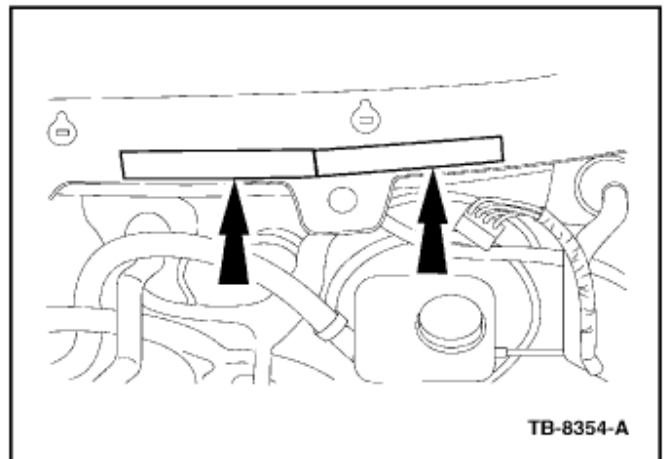

Figure 8
11. Place two (2) of the cut pieces of the PVC soft foam adhesive stripes on the metal body surface over the transaxle area. The two ends need to touch, do not allow any gap between the two ends. (Figure 8)